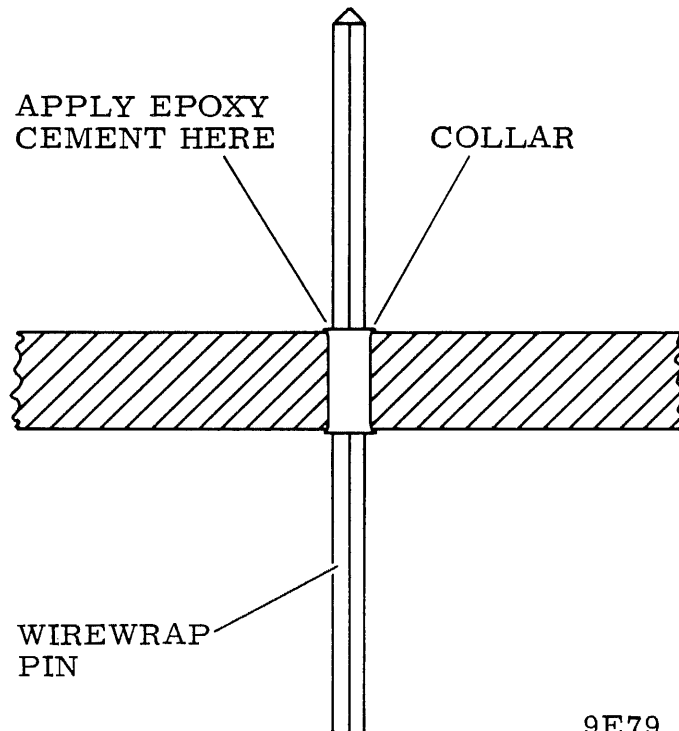

Figure 6-14. Wirewrap Pin Replacement
5. Slide post removal tool over pin and apply pressure toward backpanel until bond breaks between pin and collar (refer to figure 6-14).
9. Apply fast cure epoxy cement around pin on wirewrap side of backpanel to ensure tightness of pin (refer to figure 6-14).